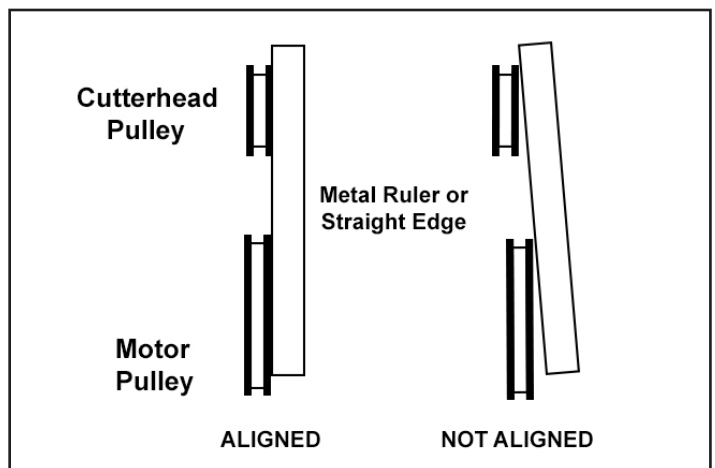

FIG. 6
2. Using a straight edge (Fig. 6.) align the face of the cutterhead pulley to the motor pulley by sliding the motor in the appropriate direction.